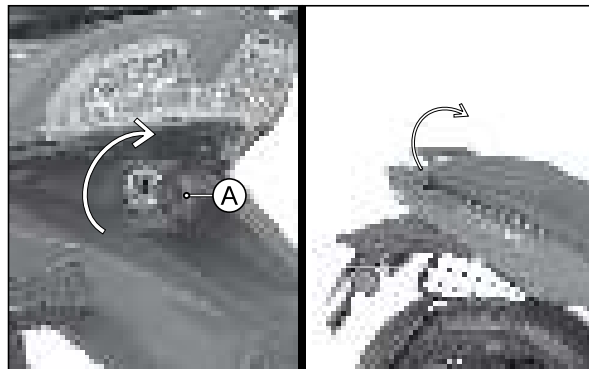

Fig. 6.156
- Insert the ignition key into the seat lock (A).
- Turn it in clockwise, lift the seat from rear end and slide it backward to remove. (Fig. 6.156)